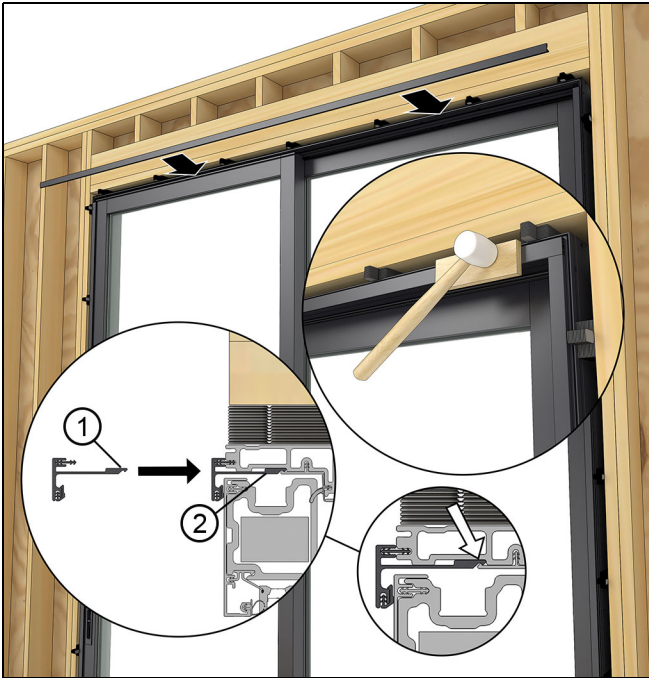

Figure 74
5. Install the head jamb frame retainer. With the panel closed and locked, slide the frame retainer above the operator panel and seat the barb into the frame with a wood block and rubber mallet. See Figure 74.
Make sure the end of the panel retainer engages with the hooked end of the frame liner as shown in Figure 74 with white arrows.